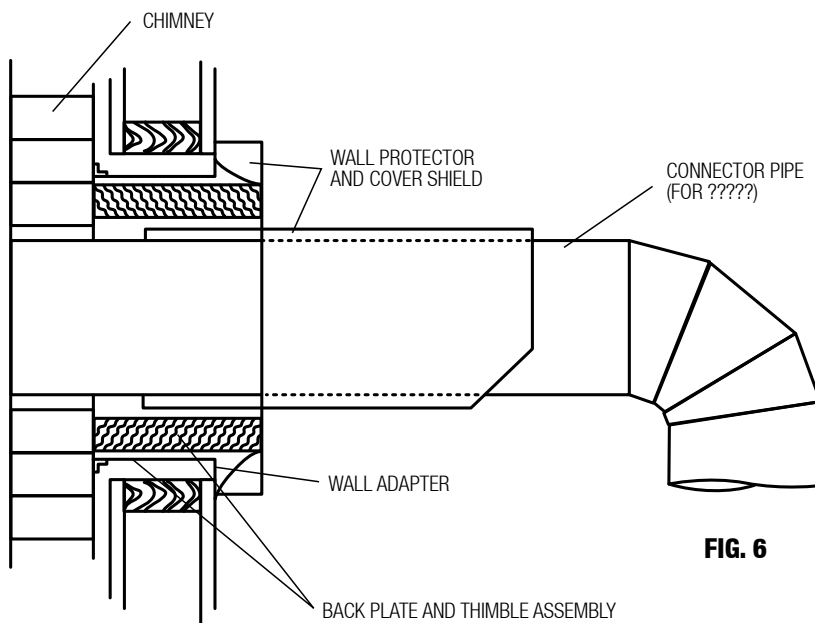

FIG. 6
14. Take the wall adapter assembly and position it so it slides into the back plate and insulated wall thimble assembly. The wall adapter adjusts inside the back plate for 4" thru 8 1/2" wall structures and mounts flush to the framing headers. In wall structures of 6" or more in depth, spacers are required on the framing to secure the wall adapter. Fasten the wall adapter to the framing headers with the four supplied #8 round head wood screws. See Fig. 6.
16. Install the wall protector and cover shield so the rear extension of the cover shield slides into the insulated thimble. There are 3 spacers on the rear extension of the cover shield that fit snugly into the insulated thimble to maintain the proper air space clearance. The wall protector and cover shield should now be firmly against the wall structure. Fasten the wall protector to the wall with the 6 supplied #8 round head wood screws. See Fig. 6.